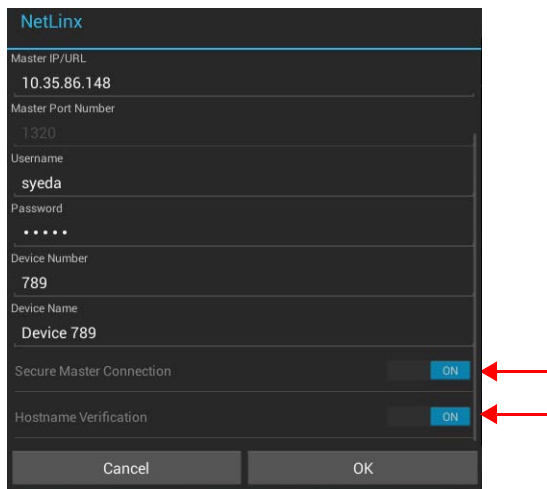

FIG. 67 NetLinx Options window - Secure Master Connections and Hostname Verification options enabled
2. Scroll to the bottom of the options list and toggle the *Hostname Verification* option **ON** (FIG. 67):